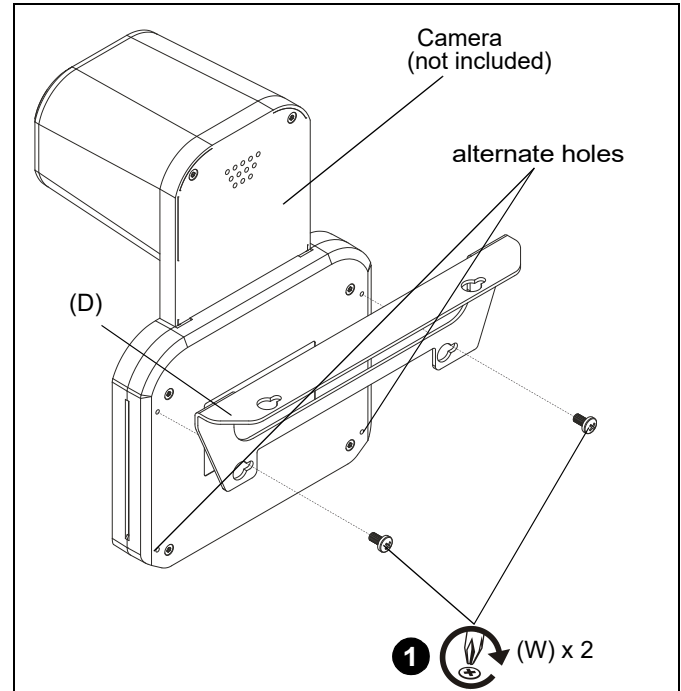

Figure 24
1. Use two M4 x 8mm Phillips pan machine screws (W) to secure camera to camera bracket (D). (See Figure 24)